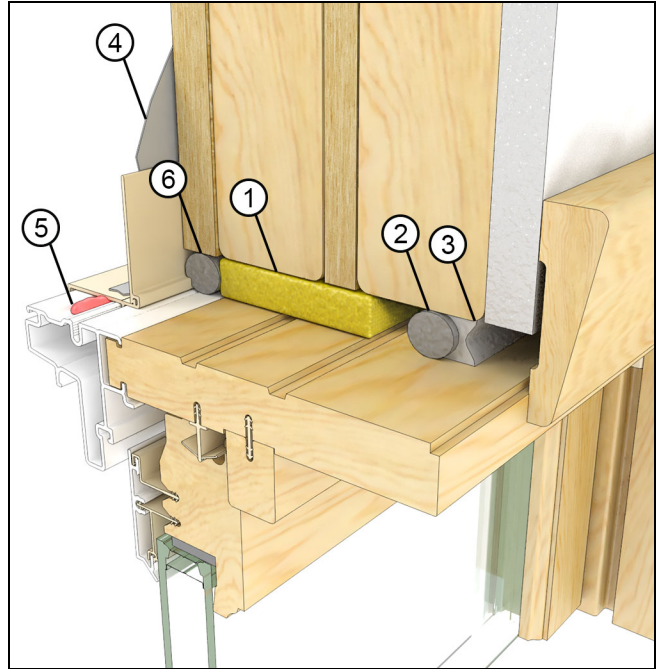

Figure 20
2. Low Expansion Foam. Install a backer rod at the exterior plane of the RO. Apply a low expansion/low compression closed cell foam in the cavity. Install a backer rod and sealant at the interior plane of the RO to create a continuous air seal. See Figure 20.